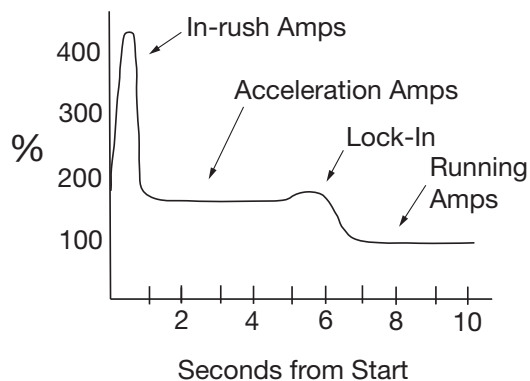

Figure 3
4. Push start button. Observe motor current during load acceleration and number of seconds required to reach full speed (Figure 3).